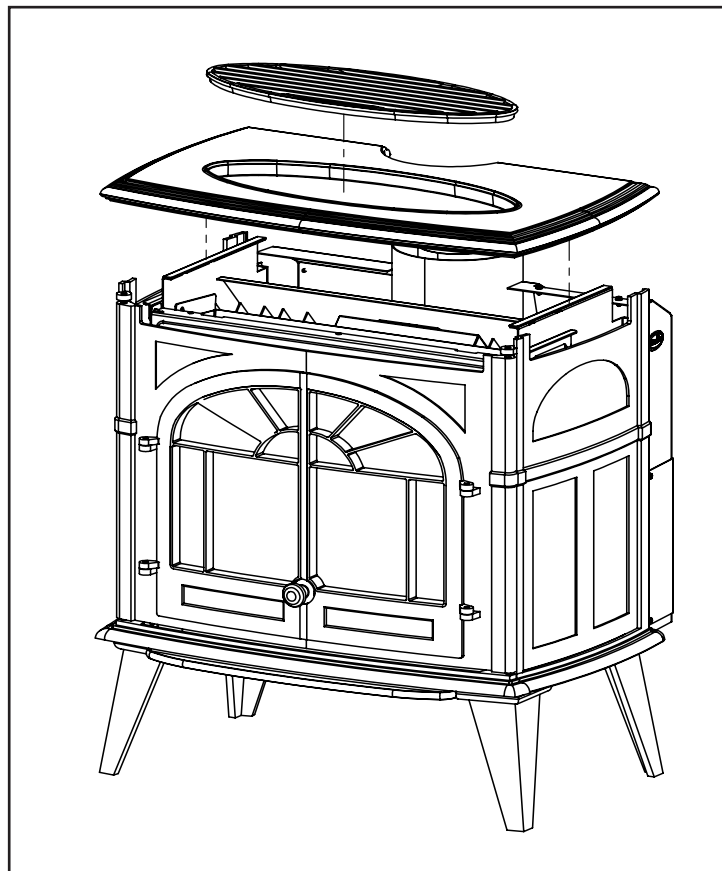

Figure 37: Removal of Stove Top
1. Carefully remove the trivet and the stovetop. Place on a soft surface as not to damage the porcelain finishes (see Figure 37).